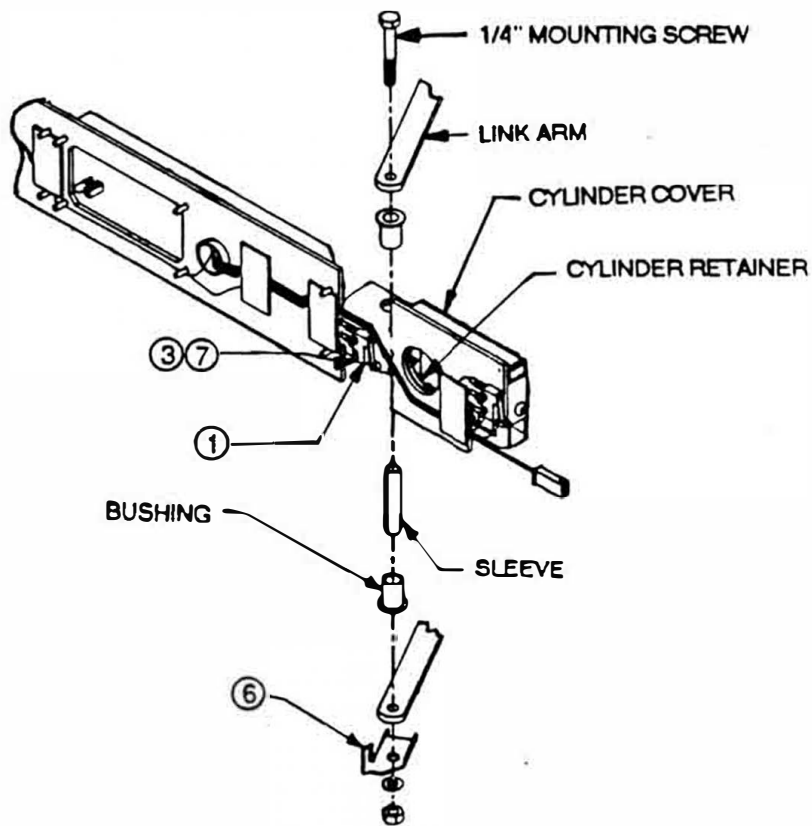

Figure 2: Alarm Accessory Kit Assembly (units manufactured after 4/21/1997)
9. Attach the new switch (Item 1) to the alarm pad base by placing two flat washers (Item 7) between the pad base and the switch, and secure with the two #2-56 x .38 thread-forming screws (Item 3) in the location shown in Figure 2.
**Note:** Figure 2 shows an alarmed unit and is oriented with the key cylinder toward the right side of the unit. If key cylinder is to the left, the figure will be upside down.
10. Loosen and remove 1/4" hardware where alarm subassembly attaches to link arms per Figure 2.